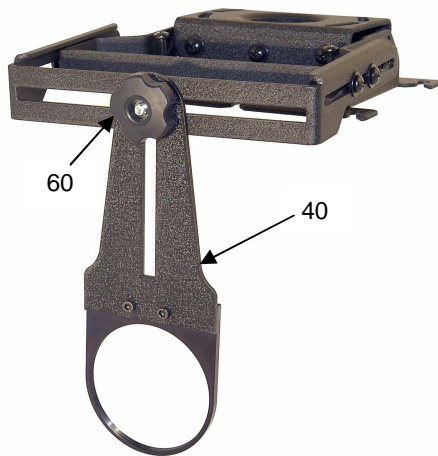

Figure 8. Leave Front Plate in Down Position
2. Loosen the knob (60) on the NAV-1. Extend the front plate (40) down all the way and finger-tighten the knob. See Figure 8.